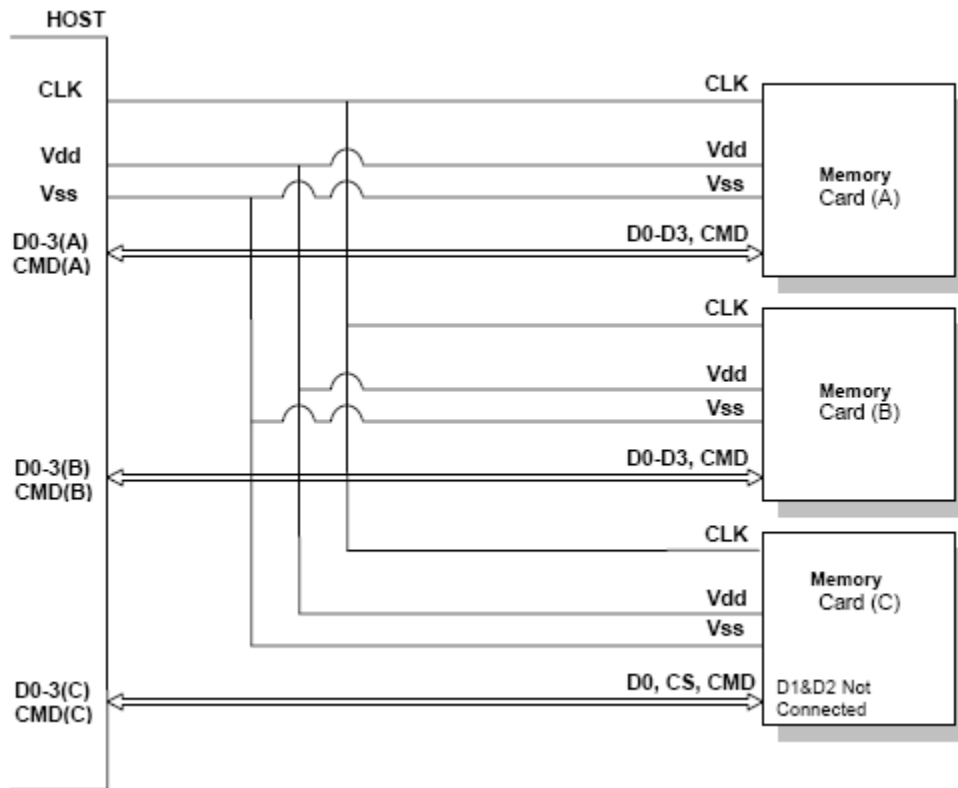

Figure 8. microSD Memory Card System Bus
Card identification and addressing methods are replaced by a hardware Chip Select (CS) signal. There are no broadcast commands. For every command, a card (slave) is selected by asserting (active low) the CS signal (see Figure 8).